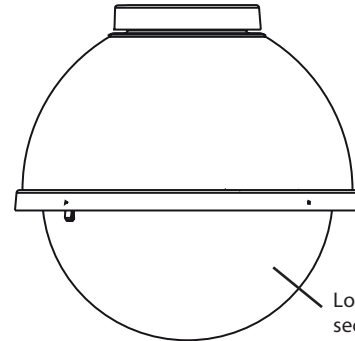

Figure 2
- 1 Using the security tool provided, open the housing by loosening the (3) captive security screws located on the housing ring next to the lower clear dome (Figure 2).